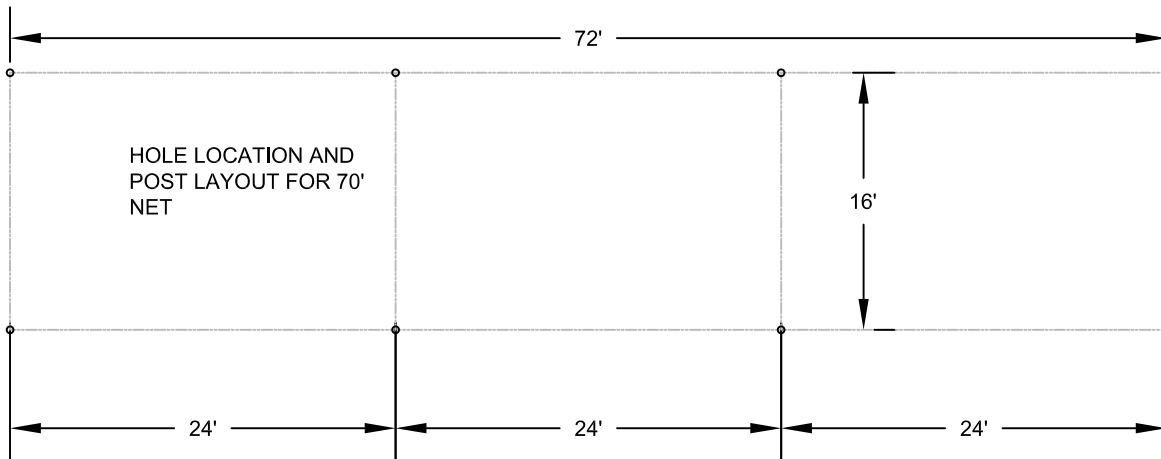
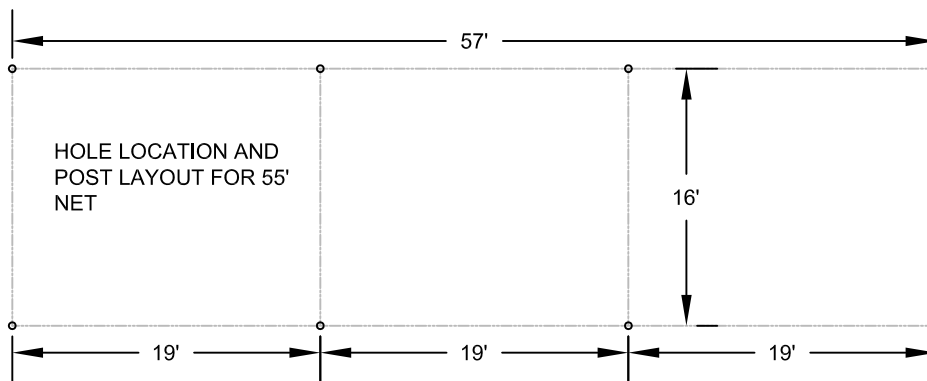

Figure 1
Figure 2
1. Select a site where the frame is to be erected. The ground should be as level as possible and free of debris and obstacles. See **figure 1** for a 70' net or **figure 2** for a 55' net. For best installation use a full coverage concrete slab.
See **SITE PREPARATION figure 1 & 2** and **FOOTING DETAIL figure 3**.
- STEP 1)** Dig 8 holes 30" deep and approximately 24" diameter. **figure 1 & 2**.